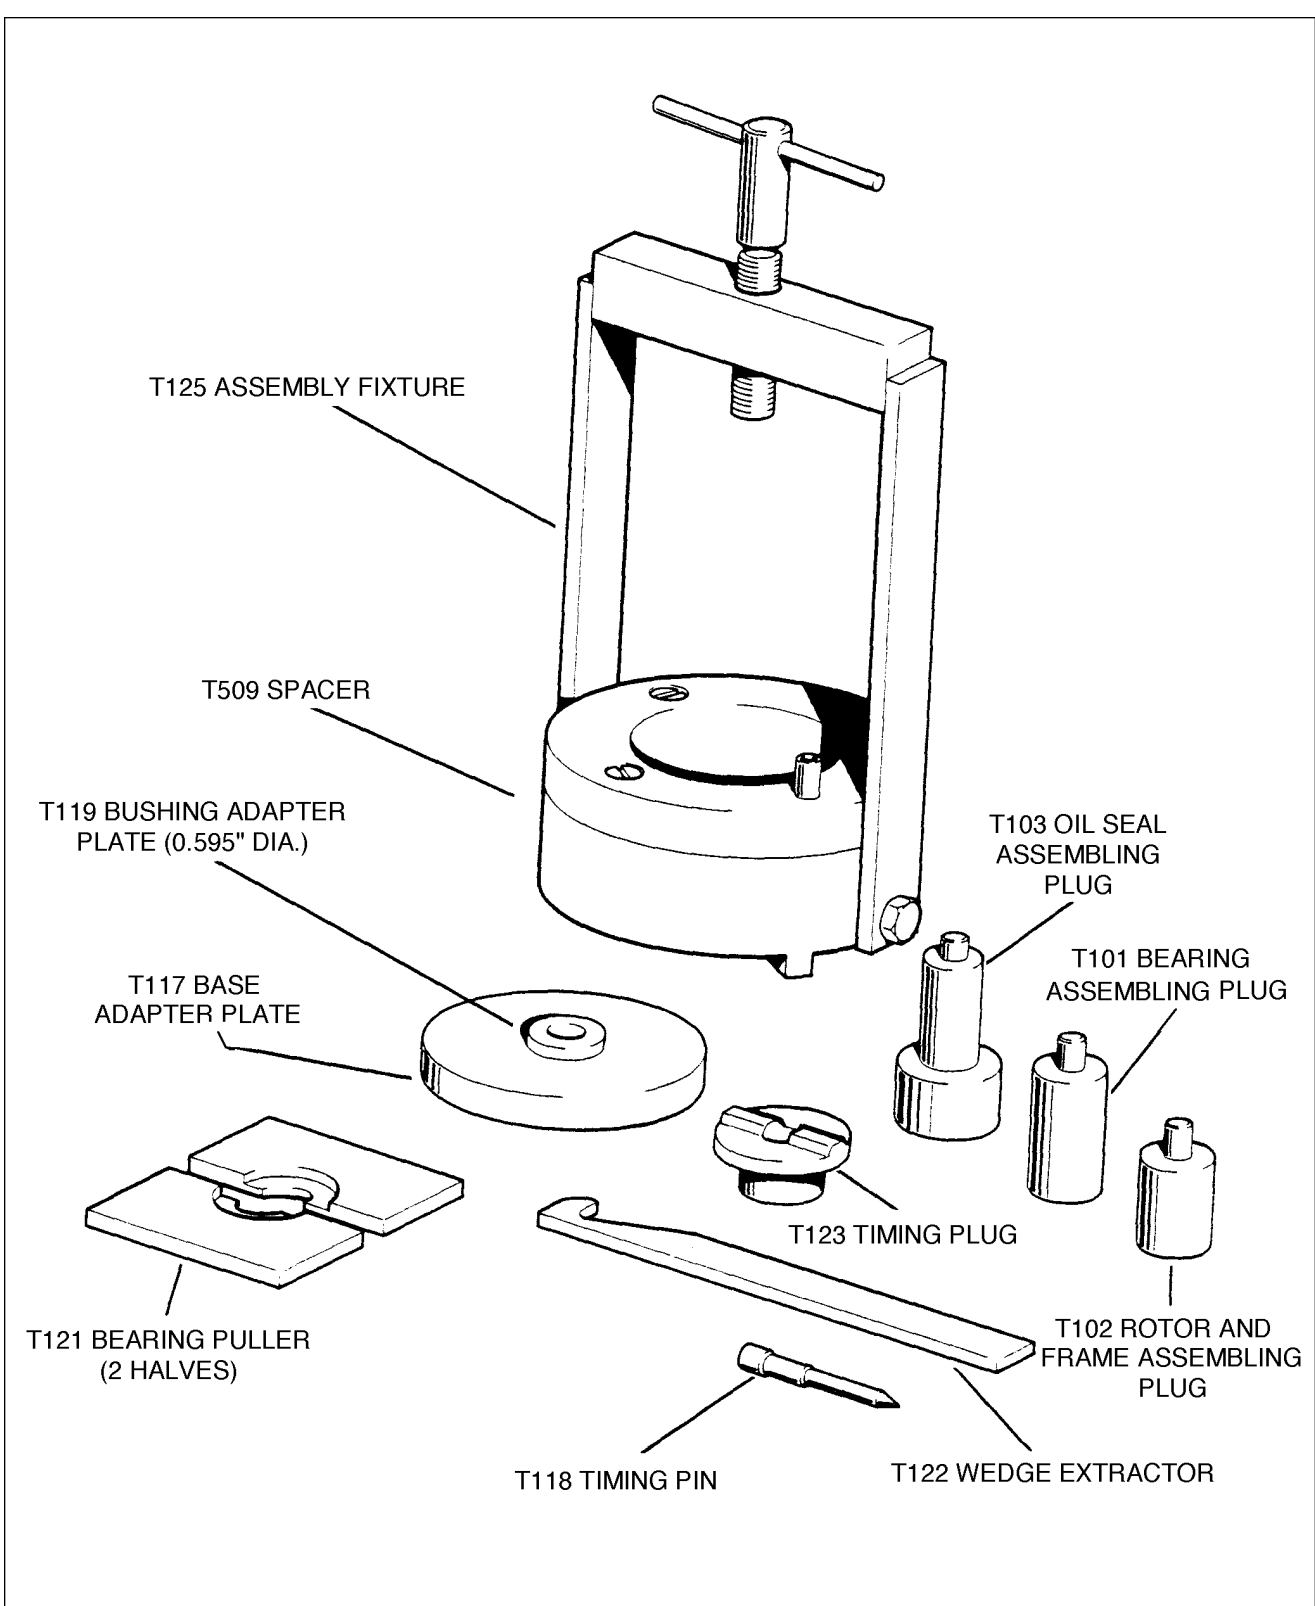

Figure 8-8. T-100 Assembly and Timing Tool Kit
**NOTE:** Although not required, use of the Slick T-100 assembly and timing kit is strongly recommended. (Refer to Figure 8-8.) The tools contained in this kit will greatly facilitate magneto disassembly/assembly and help prevent damage to parts.
- a. Insert the T-118 timing pin (refer to Figure 8-8) in the L or R hole in the distributor block (depending on rotation of the magneto).